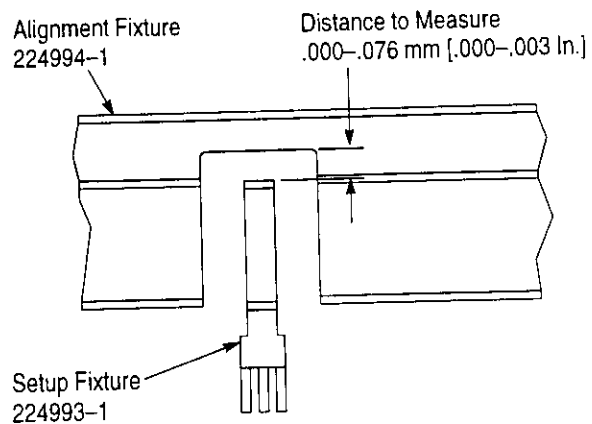

Figure 4
8. Measure the distance between the setup fixture and alignment fixture. See Figure 4.
11. Verify that there is .000-.076 mm [.000-.003 in.] of clearance between the setup fixture and alignment fixture. See Figure 4.